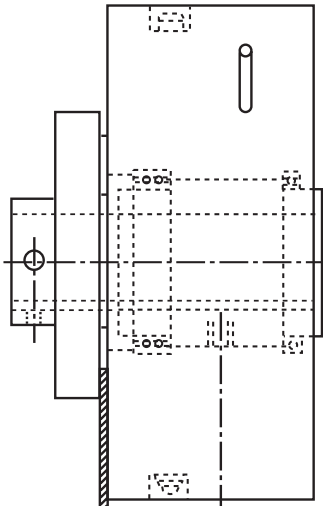

Figure 14
- a. Measure the gap around the periphery between the coupling flange and the clutch housing **without rotating** the shafts. (See Figure 14).
- a. Measure the gap around the periphery between the coupling flange and clutch housing **without rotating** the shafts. (See Figure 14)